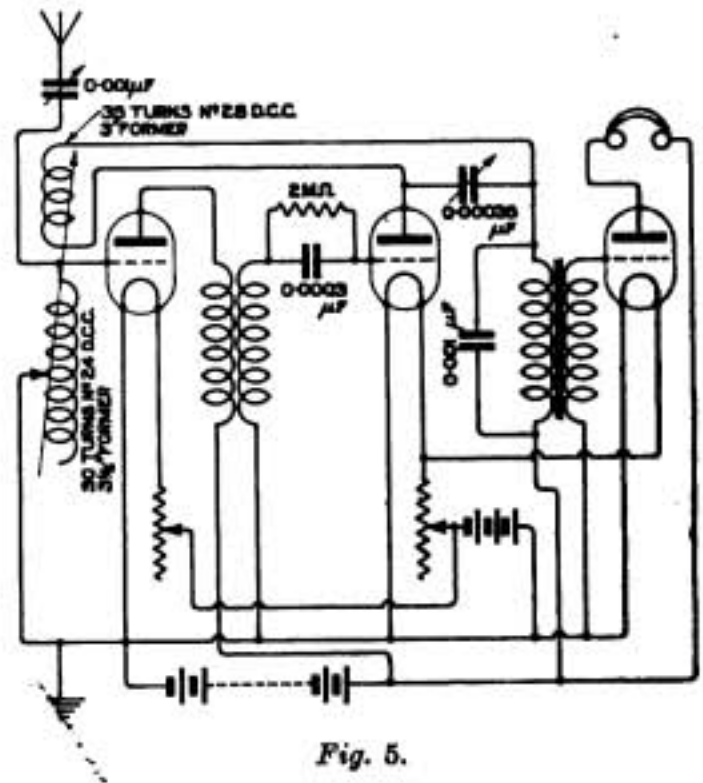

Fig. 5.
(1) It is impossible to advise you as to the wavelength range of your coils as it materially depends upon the dimensions of your aerial. The approximate range on a two-wire aerial of maximum dimensions would be 270/1,700 metres. (2) For circuit, making use of the apparatus you have, see Fig. 5.